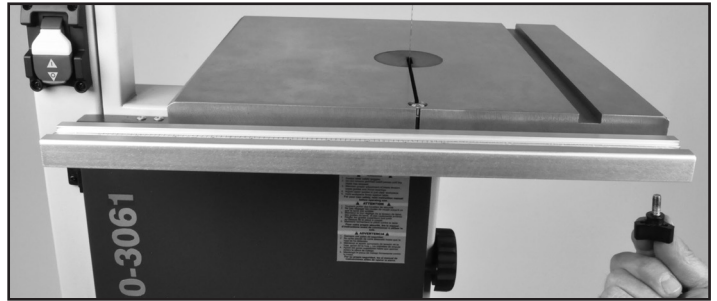

FIGURE 5
2. Secure the guide rail to the table with the two Star Knob Screws (#97). FIG. 5.